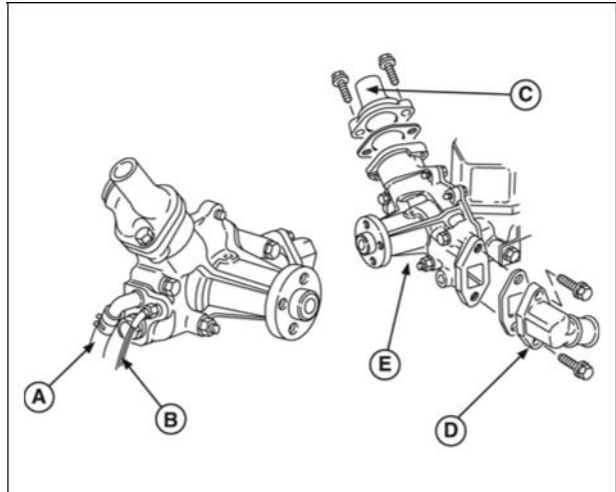

Figure 9
3. Remove the following parts (Figure 9):
- (A) By-pass hose
- (B) Temperature gauge wire (if equipped)
- (C) Coolant outlet
- (D) Coolant inlet
- (E) Water pump